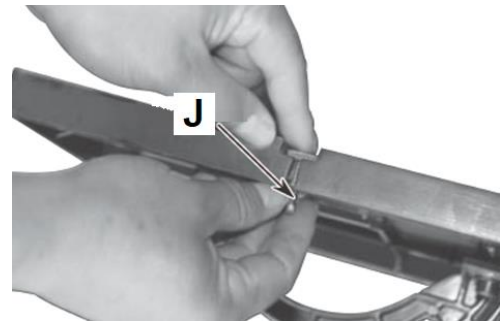

Fig 5
- Re-install the table slot bolt and wing nut (Fig 5)